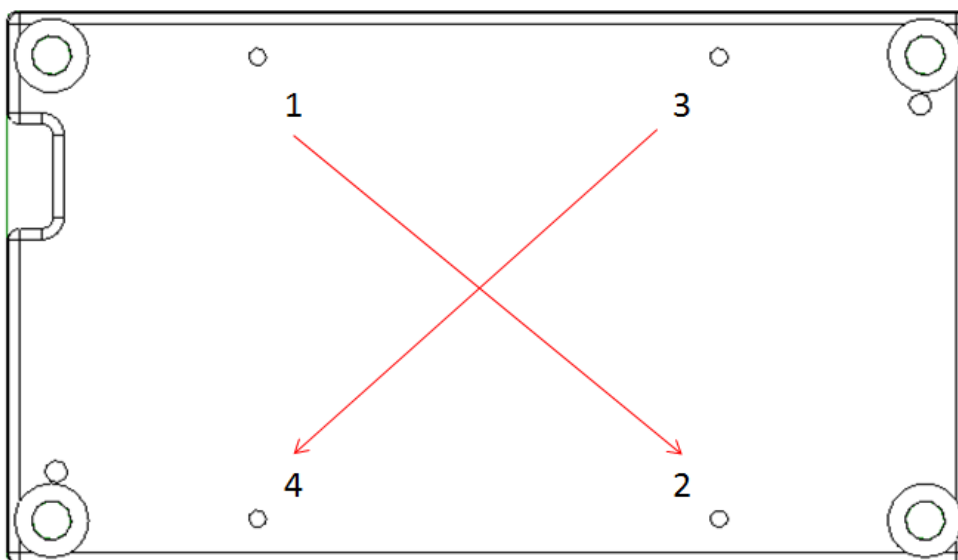

Figure 3-5. Torque Pattern Sequence
- ▶ For all mounting screws, a maximum torque of 0.1 N-m is recommended. The tightening sequence shown in Figure 3-5 should be done in two cycles with the last one as maximum torques recommended.
- Item 2: Follow the torque pattern sequence as shown in Figure 3-5.
- a) Each mounting M3 screw should be attached loosely in the sequence shown in Figure 3-5. The tightening sequence should be followed for two cycles. On the last tightening sequence, the screws should be fully torqued.